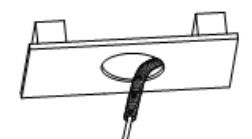

Fig.3
4. When installing in drywall, cut appropriate a hole 2 1/2" in the drywall (as Fig.3).